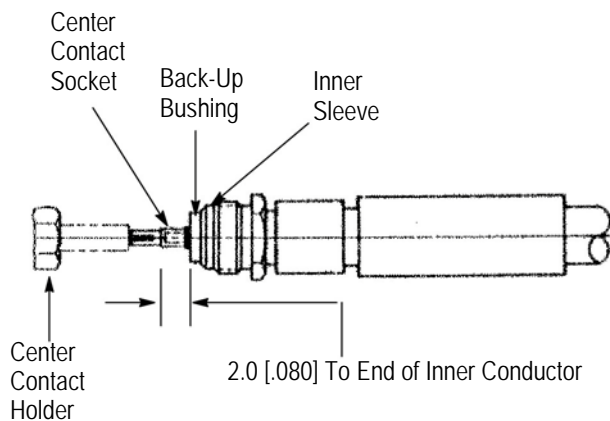

Figure 5
3. Trim and de-burr the inner conductor projection to length. See Figure 5.